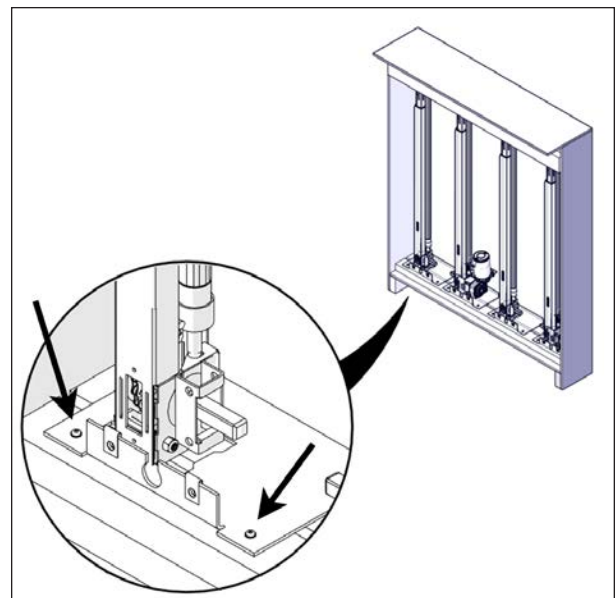

FIGURE 22: JACK BOTTOM SCREW REMOVAL
12. Remove the jack assembly by unscrewing the Robertson #8 x 1.5" screws. There are two screws at the bottom of each jack, see Figure 22.